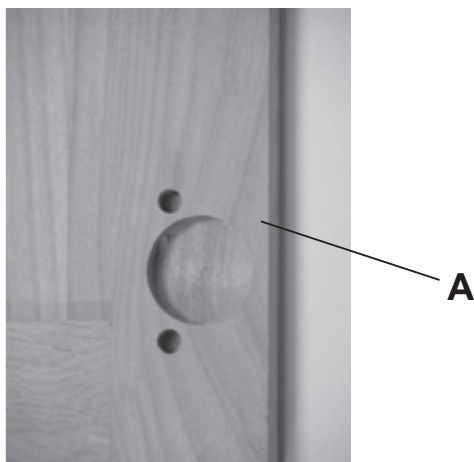

Fig. 2
2. There are predrilled holes in the door as shown in Figure 2. This is where you will be inserting the hinge part of the assembly. Insert the Hinge (D) assembly that has the plastic knobs into the predrilled holes in the bottoms and tops of the Doors (A). See Figures 2 and 2a. ***You must place both Hinges into the Door before you attach them to the bookcase.***